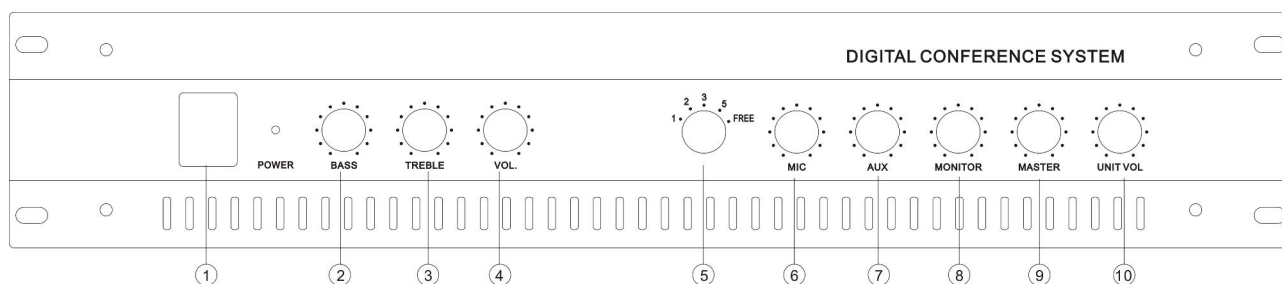

fig.1
User can set the system working mode by the mode knob (**fig1. ref.5**)